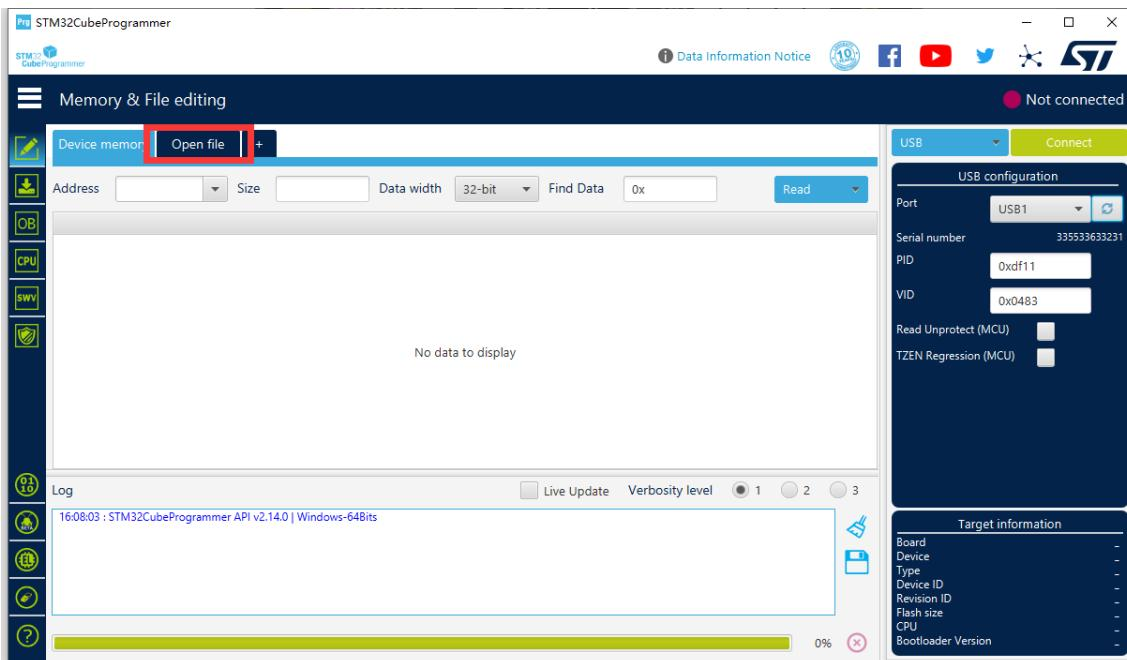

Figure 8-13
- 15) Open STM32CubeProgrammer, select USB on the right side, then click Refresh icon, as shown in Figure 8-13:
- 16) Select the Bootload file, as shown in Figure 8-13: